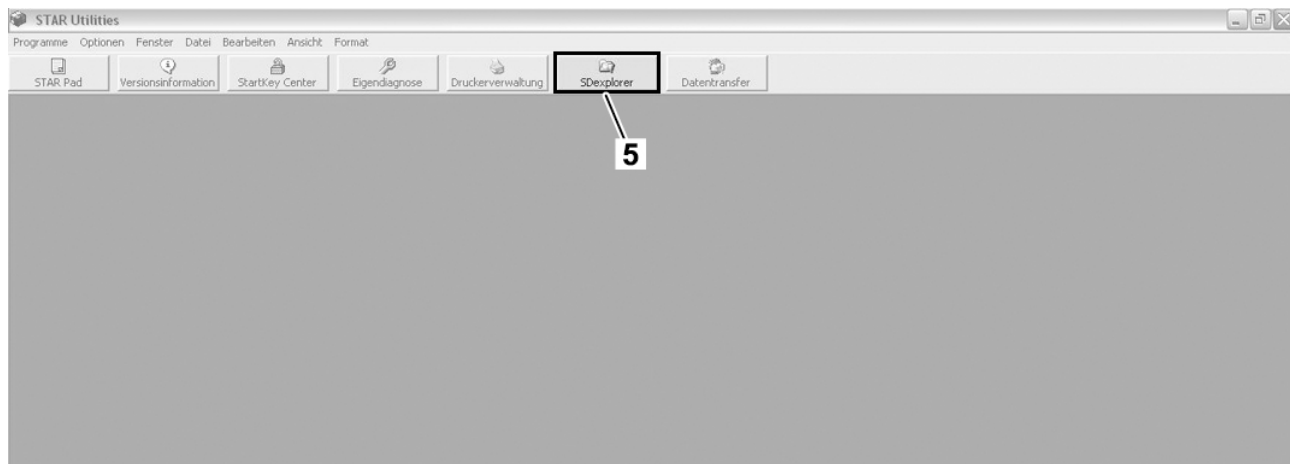

Figure 3.
6. Pressing "SDexplorer" (Figure 3) (5) takes you to SDexplorer.